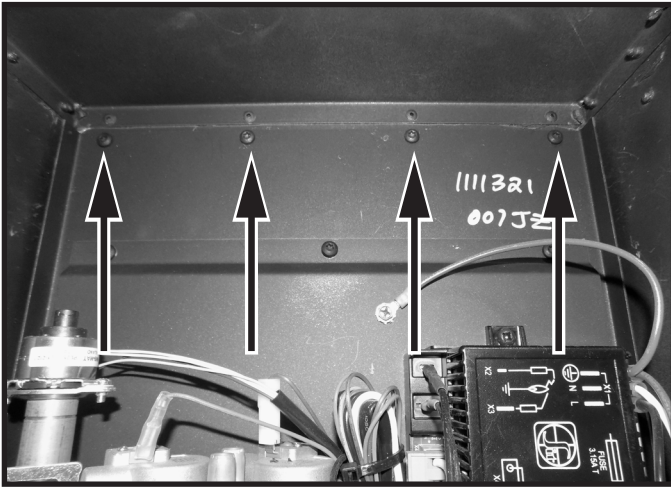

Figure 65: Control panel securing screws.
15. Remove the four screws located at the top of the control panel as shown in Figure 65.